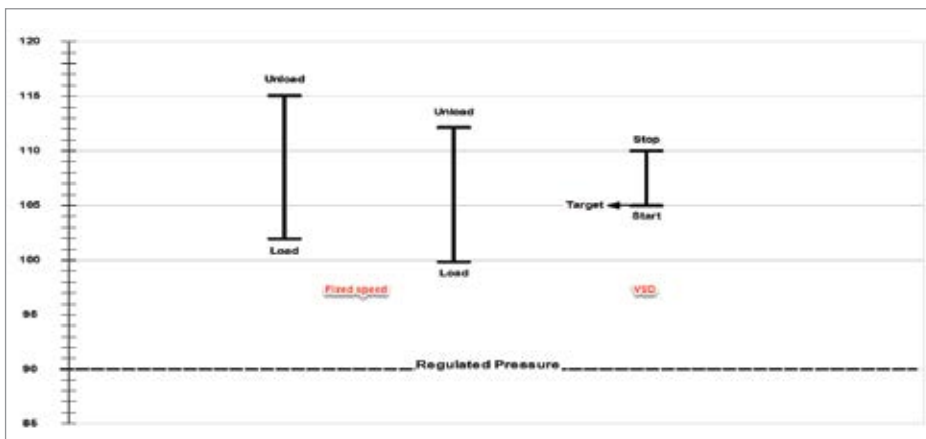

Figure 2: The recommended control band places the VSD inside the pressure band of the fixed speed compressors.
– The existing air compressors had a problem with control pressure coordination. The smaller unit was not loading until the pressure dropped well below the set point of the VSD air compressor, and when loaded it ran in modulation mode. This is a common problem where the VSD compressor control bands need to be nested within the control band of the fixed speed unit as shown in Figure 2.